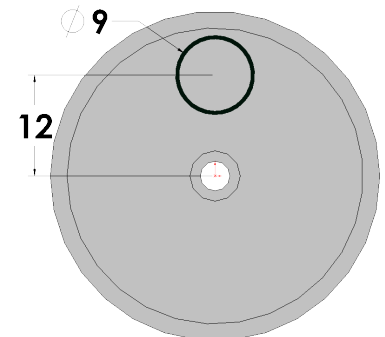

Fig. 14
Step 3. Click **Circle**  (S) on the Sketch toolbar.
Step 4. Draw a circle for the hole directly **above** the Origin , **Fig. 14**. Use the inferencing line, the dotted line that appears when you draw the circle.
Step 5. Click **Smart Dimension**  (S) on the Sketch toolbar.
Step 6. Dimension as shown in **Fig. 14**.